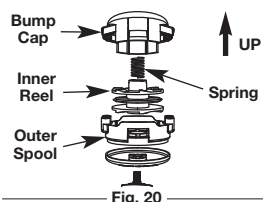

Fig. 20
- Remove the cap either by letting it pop off or a slight wiggle of the cap may be required and pull it off the outer spool (Fig. 20).
- Place the inner reel back into the outer spool (Fig. 20).